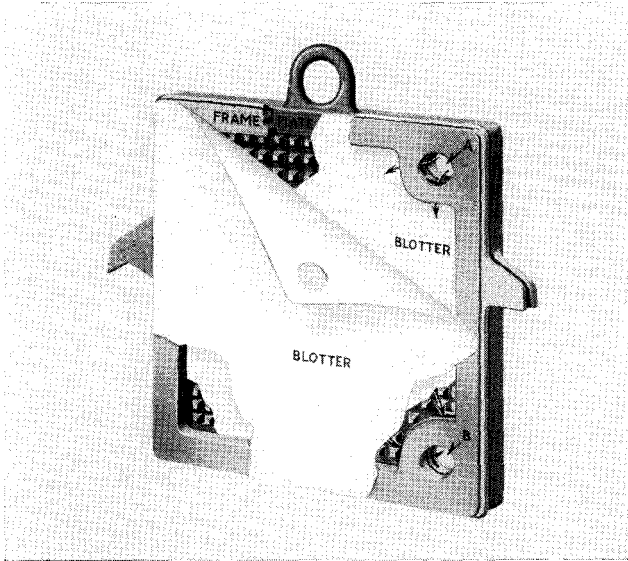

FIG. 8. Blotter Filter Press Frame Showing Blotter Filter Papers in Place
**Seven GPM Unit.** The activated clay is contained in a tank mounted on one end of the filter frame. This tank is provided with a cover which incorporates an air-trap and vent to remove air which might be present in the tank and piping. The Inerteen is pumped up through the clay, insuring thorough agitation of the clay and Inerteen. The Inerteen is passed through a wire screen prior to entering the paper filter to remove practically all of the clay. The paper filter consists of 18 frames and 17 plates, alternately spaced, mounted in a yoke. One sheet of filter paper is used between each plate and frame to provide a gasket seal and remove all traces of clay from the Inerteen. (See Fig. 8)
The plates and frames have holes in two corners and supporting lugs at the sides. The plates have handles cast on the top edge. When the plates and frames are assembled with the filter papers between, the holes form the inlet and outlet. The frames have the holes in the upper corner connected by small ducts to the middle of the frame. The plates have ducts leading from the surface of the plate to the hole in the lower corner. (See Fig. 8)